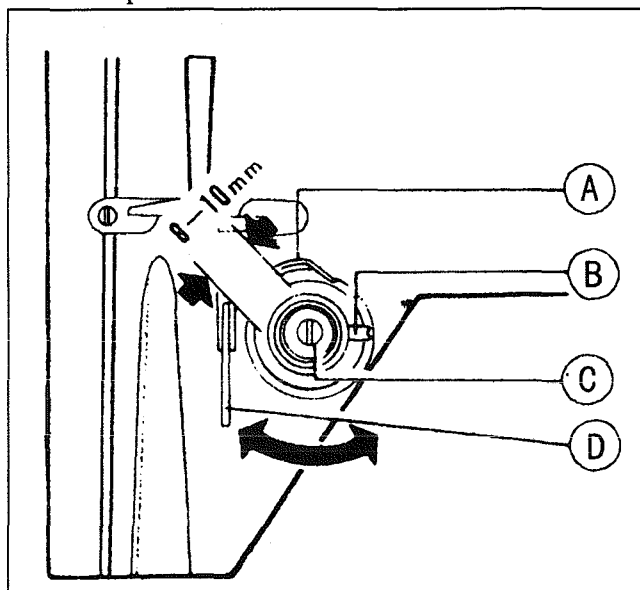
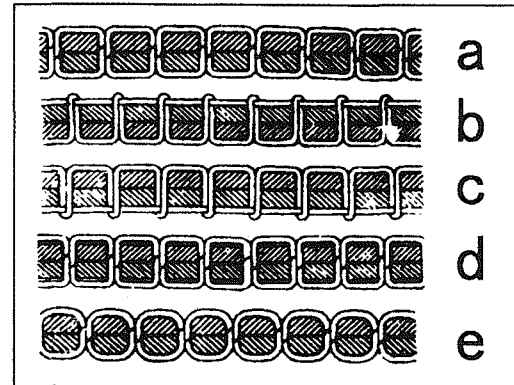

Fig. 15
Fig. 16
## 15. ADJUST THREAD GUIDE AND THREAD TENSION ( Fig.16,17 )
Fig.15 shows different stitch forms. Normal stitch form should be as shown in Fig.15 ( a ). When abnormal stitches cause puckering and thread break-age, the tension of needle thread and bobbin thread must be adjusted accordingly.
- 1) In case needle thread tension is too strong or bobbin thread tension is too weak, as shown in Fig.15 ( b ), turn the thumb nut counterclockwise to decrease the needle thread tension, or tighten the tension spring regulating screw of bobbin case to increase the bobbin thread tension ( See Fig.16 )
- 2) In case needle thread tension is too weak or bobbin thread tension is too strong, as shown in Fig.15 ( c ), turn the thumb nut clockwise to increase the needle thread tension, or loosen the tension spring regulating screw of bobbin case to decrease the bobbin thread tension.
- 3) In case of the stitch forms as shown in Fig.15 ( d ) and ( e ), adjustments can be made with reference to the above means.